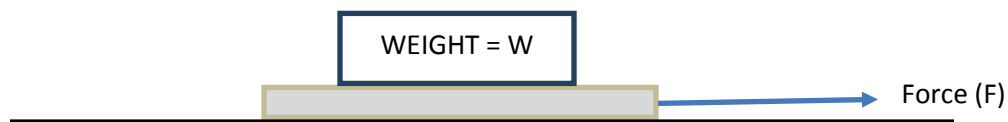

Figure 1: Determining the coefficient of friction
The coefficient of friction is a simple concept that defines the ratio of the vertical force on the tire to the force required to slide the tire. If a known amount of weight (W) sits on top of a block that can slide on the pavement and the force (F) is measured to slide the block as shown in Figure 1 the coefficient of friction can be determined.